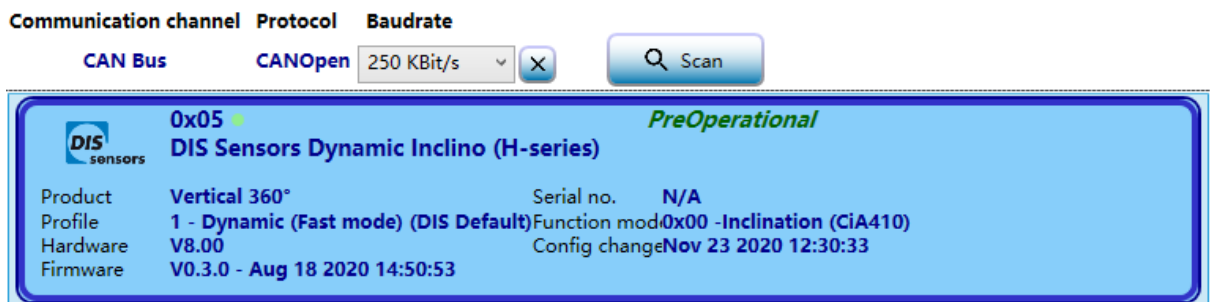

Figure 25 - Sensor detection
- **Sensor detection.** Click , the software will scan the CAN bus and find the connected sensors. Basic information such as product name, serial number, etc. will be shown in Figure 25.